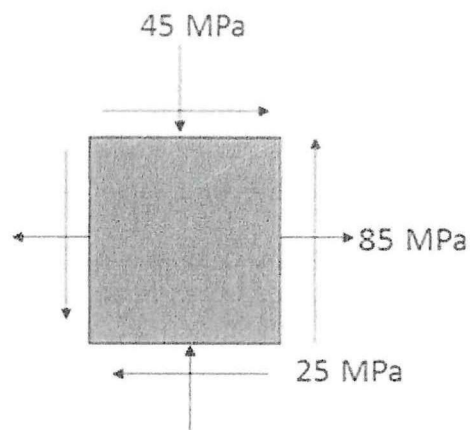

Figure Q6(c)
- (c) The state of plane stress shown occurs at a critical point of Cessna 172 landing gear is shown in **Figure Q6(c)** where $\sigma_x = 85$ MPa, $\sigma_y = -45$ MPa, $\tau_{xy} = 25$ MPa. As a result of several tensile tests, it has been found that the tensile yield strength is $\sigma_Y = 250$ MPa for the grade of steel used. Determine: